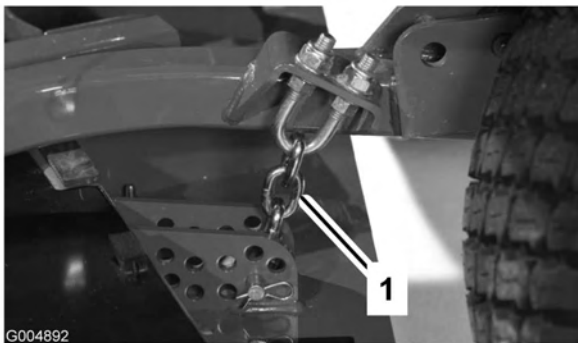

Figure 80
3. Remove the hairpin cotter and clevis pin securing the height-of-cut chains to the rear of the cutting unit (Figure 80).